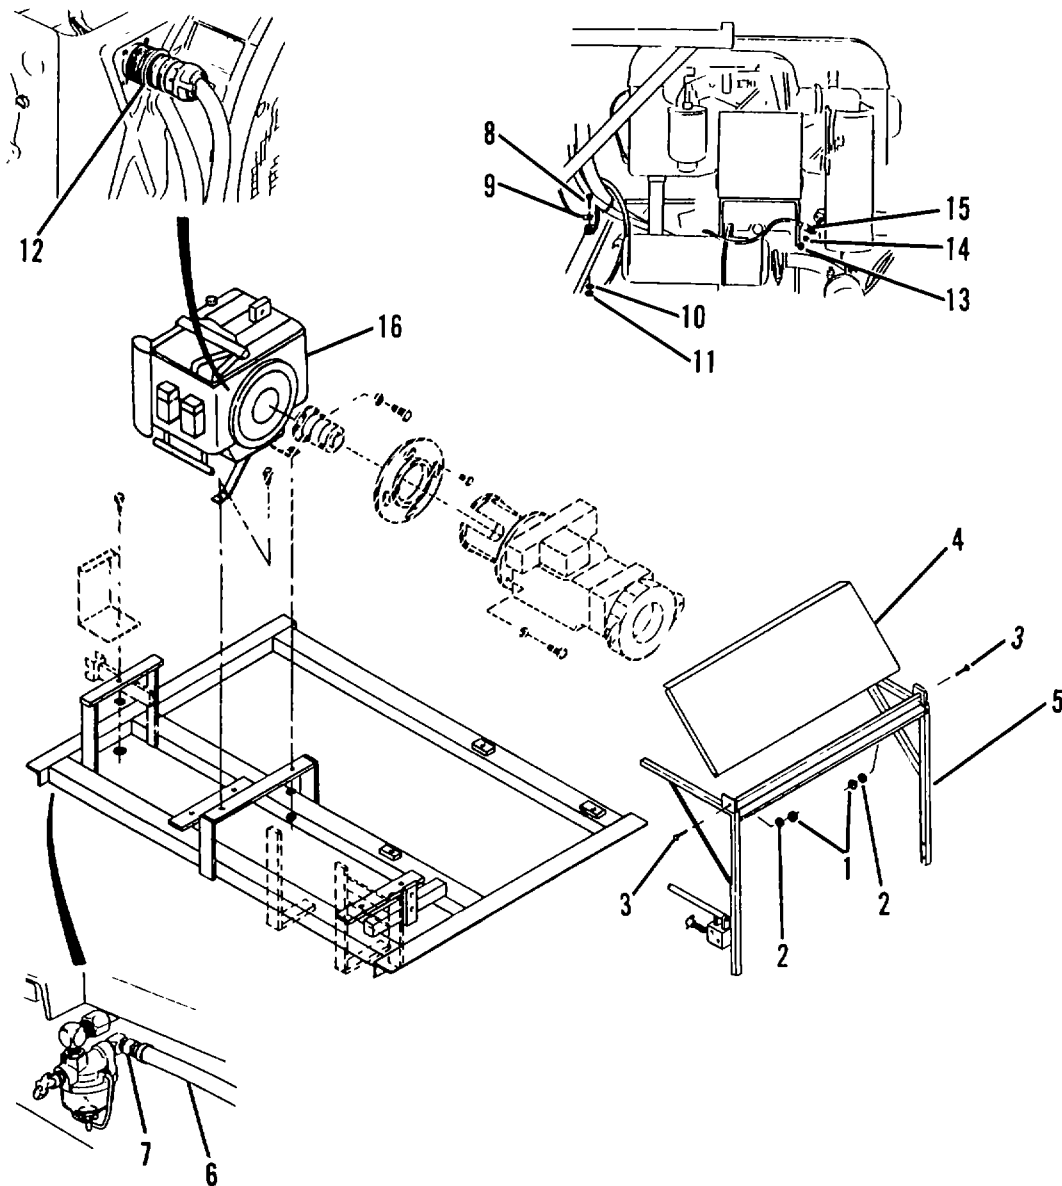

Figure 4-43. Engine Mounting.
- (1) Remove two nuts (1, Figure 4-43), washers (2) and capscrews (3) securing hood (4) to brackets (5).
- (2) Remove hood (4).
- (3) Disconnect fuel hose (6) at fitting (7).
- (4) Remove screw (8), ground connector (9), washer (10) and nut (11).
- (5) Disconnect engine electrical connector (12).
- (6) Remove nut (13), washer (14) and positive cable (15).